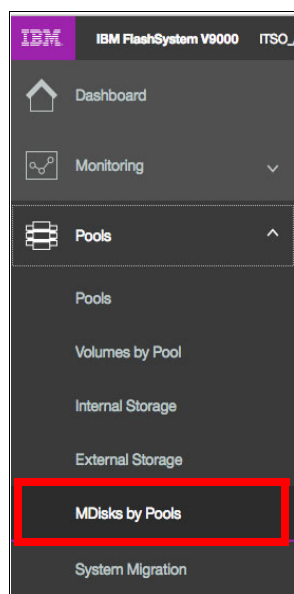

Figure 4-47 Select the MDisks by Pools from the Navigation Menu
1. Begin by selecting the panel that you want to use to create the pool, as shown in Figure 4-47.